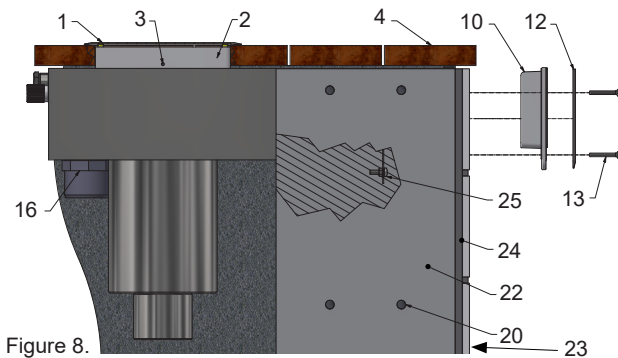
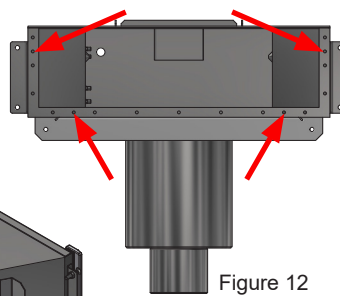

Figure 8.
Figure 12
7. Install wall cladding (fix, tile, mosaic, etc.). Make sure that the mounting holes (as shown in Figure 12) for the mounting frame are free, so the mounting frame can be fitted later.
8. Install the flap gate (17) and check that it is correctly located and can move.
9. Fit the mounting frame (10) and front (12) using the enclosed screws (4 M5x40), see Figure 8.
12. The drainage pipe (14) is glued to the pipe muff (15) using a suitable PVC adhesive and fitted in the skimmer with the enclosed gasket and nipple (16). Connect pipe fittings to the overflow.